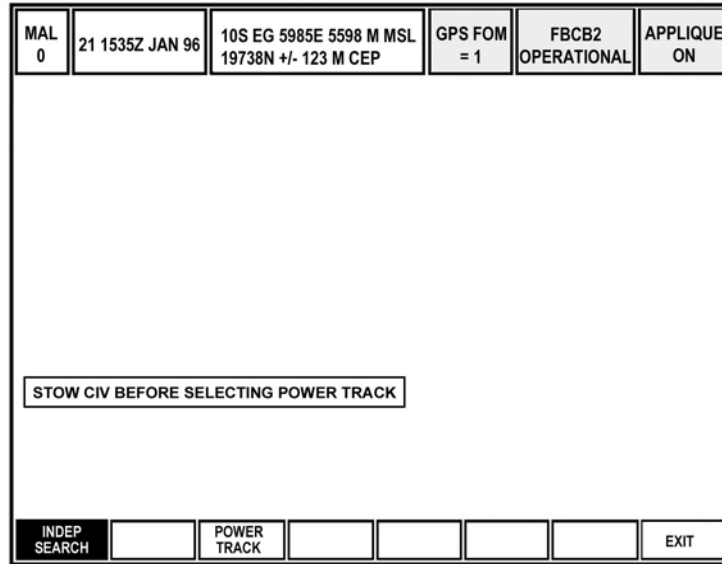

Figure 24. INDEP SEARCH softkey.
- g. To deselect POWER TRACK mode, press INDEP SEARCH softkey on the FIRE CNTL MODE screen (Figure 24).